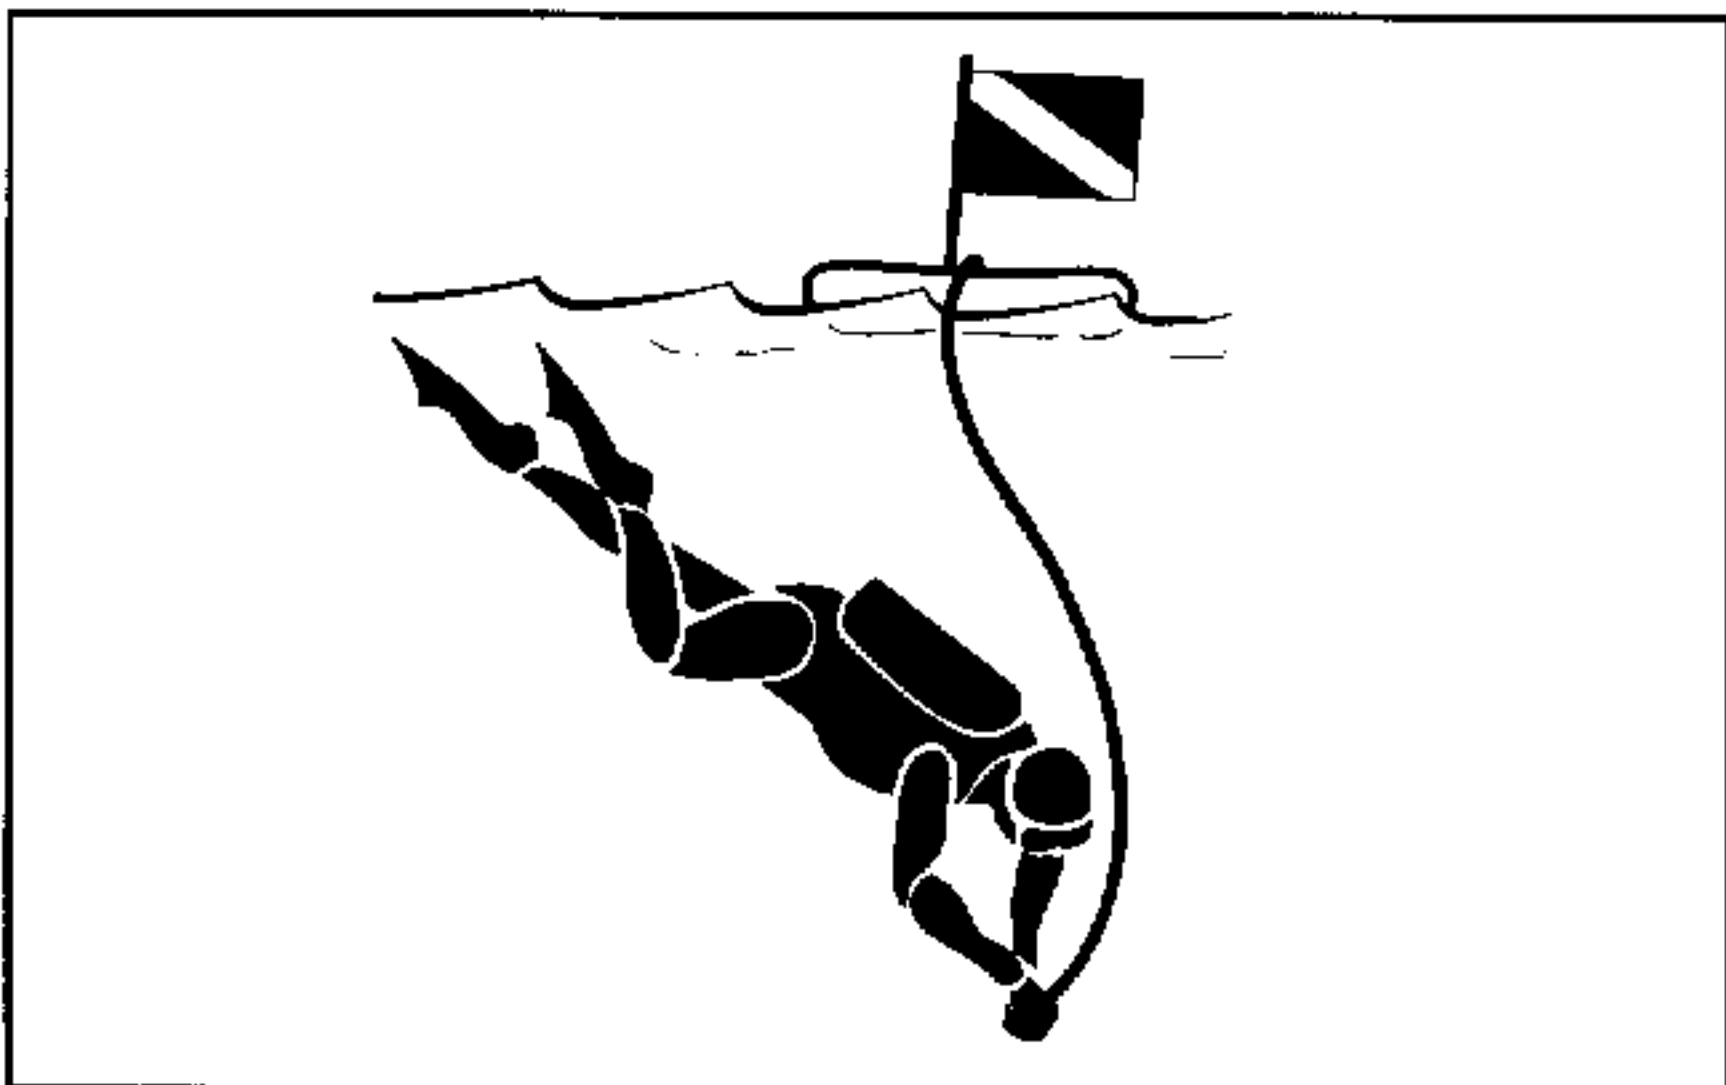

FIGURE 2.11 DIVER DOWN FLOAT
9. Do not allow anyone near the propeller(s), even when the engine is off. Propeller blades can be sharp and can continue to turn even after the engine is off. Stay at least 150 feet away from areas marked by a diver down float (Figure 2.11).